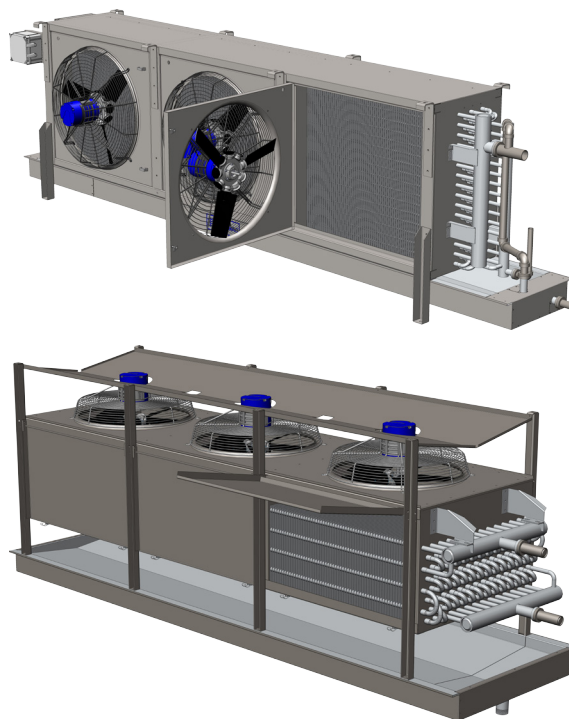

Figure 7
**Hinged Fan Panels:** All fan panels on all A+ Series™ air coolers are hinged as standard for ease of inspection, cleaning, and service. See Figure 7.